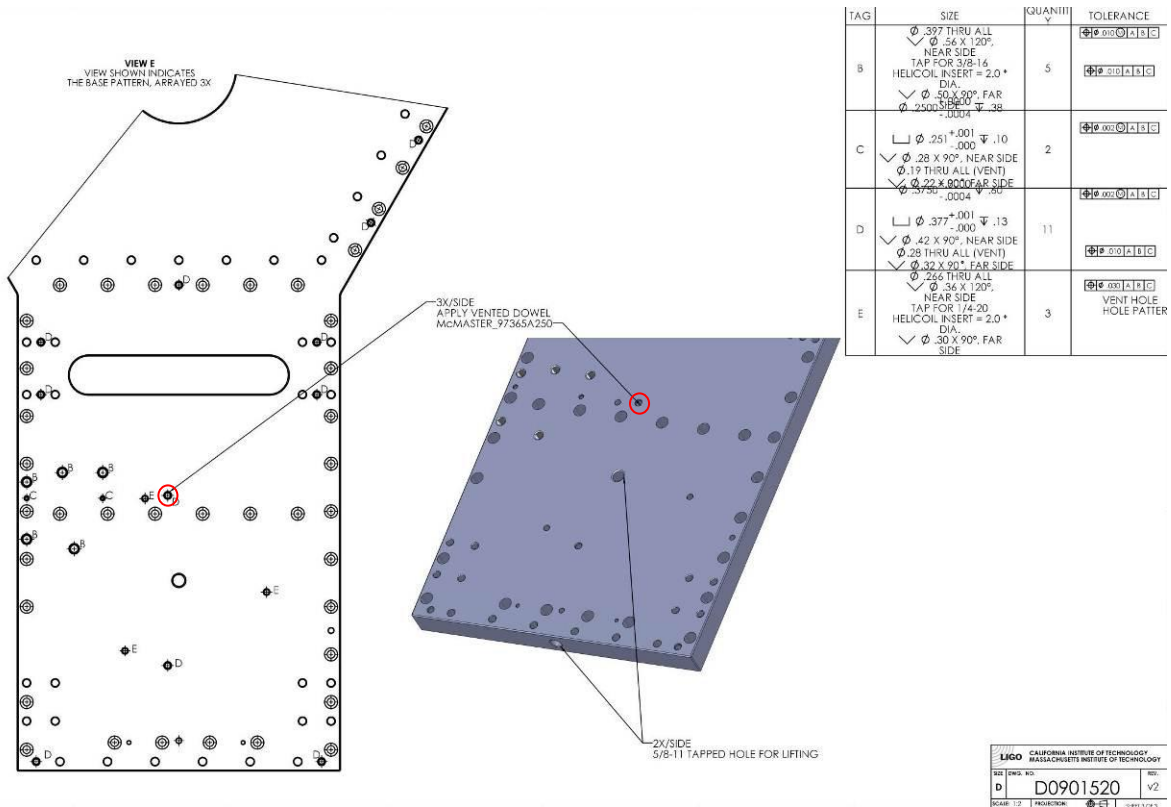
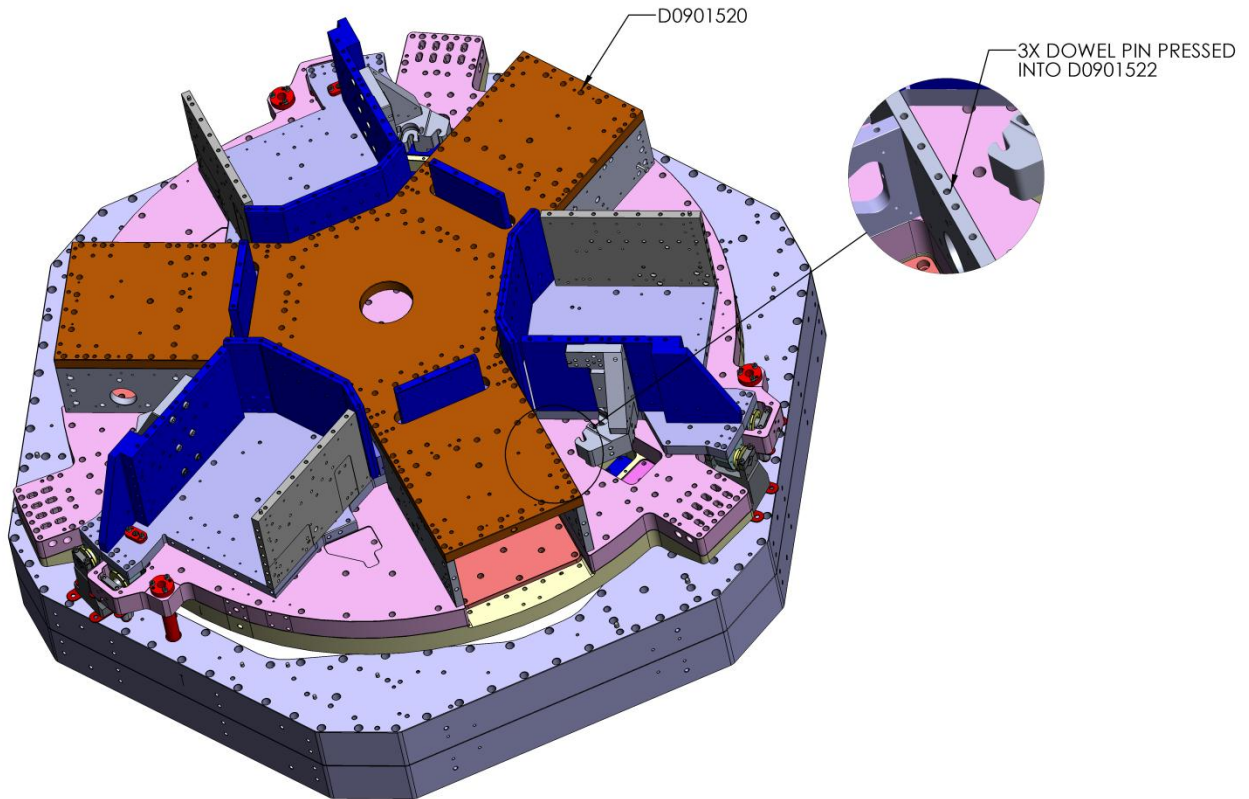

Figure 50: Prep Work for D0901520 Stage 2 Mid Plate
Figure 51: D0901520 Stage 2 Mid plate on the Assembly
Note: side with vent slots facing down as shown on Figure 50 & Figure 51.
- Press (1) 1/4" x 5/8" dowel pins into D0901521. Pins should sit about 0.25" above the surface.
- Press (1) 3/8" x 1" dowel pins into D0901521. Pins should sit about 0.4" above the surface.
- Press (1) 3/8" x 1" **THREADED** dowel pins into D0901521 (see Figure 50 for the exact location circled in red). Pins should sit about 0.4" above the surface.
- Press (1) 3/8" x 2" dowel pins into D0901521. Pins should sit about 0.4" above the surface.
- Lift D0901520 Stage 2 Mid Plate using (3) 5/8-11 Tapped Lifting holes.
- Position D0901520 over the Assembly as shown on Figure 51 (D0902282 Stage 1 Inner Walls must go through the (3) pockets of D0901520).